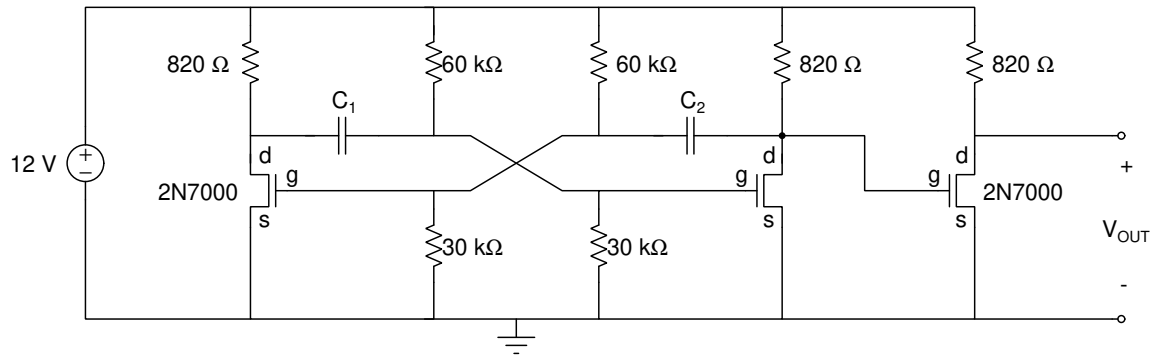

Figure 4: Astable multivibrator oscillator circuit of Figure 2 with an added 2N7000 transistor used as an output buffer.
8. The shape of the output signal can be improved by reducing the amount of capacitance on the output node. Add a third transistor to the circuit, to act as a buffer, as shown in Figure 4. This third transistor will invert the output signal. Hence, you will need to switch capacitors C_1 and C_2 to maintain the same duty cycle at the output.